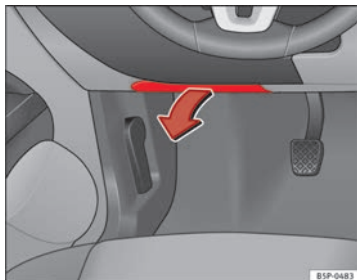

Fig. 185 Left side of dash panel: fuse box cover
- *Opening*: fold the cover down ⇒ Fig. 185.